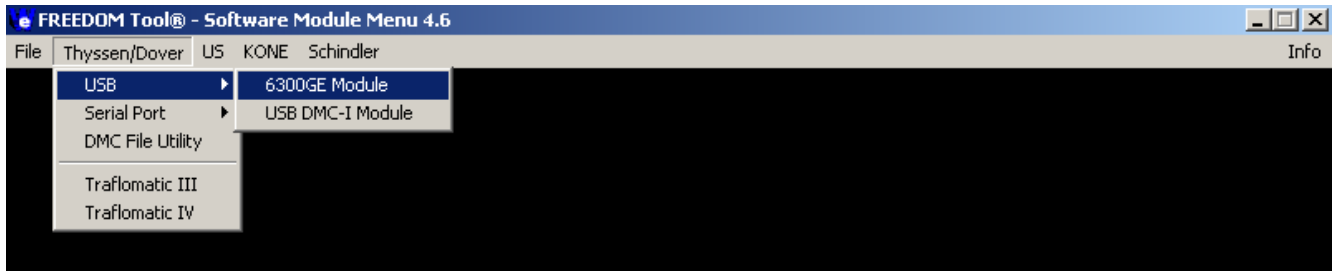

Figure 18
5. The next item to be selected in order to run the 6300GE4 Software Module is the menu choice **USB**. In the **USB** category, there are two (2) choices. Refer to Figure 18.